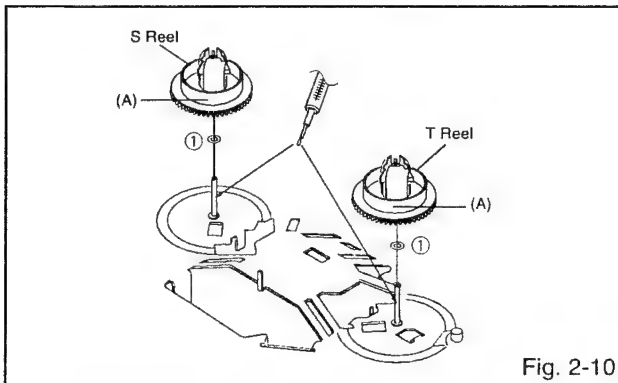

Fig. 2-10
2-10: S REEL/T REEL (Refer to Fig. 2-10)
4. Do not touch the section "A" of S Reel and T Reel. (Use gloves.) (Refer to Fig. 2-10) Do not adhere the stains on it.